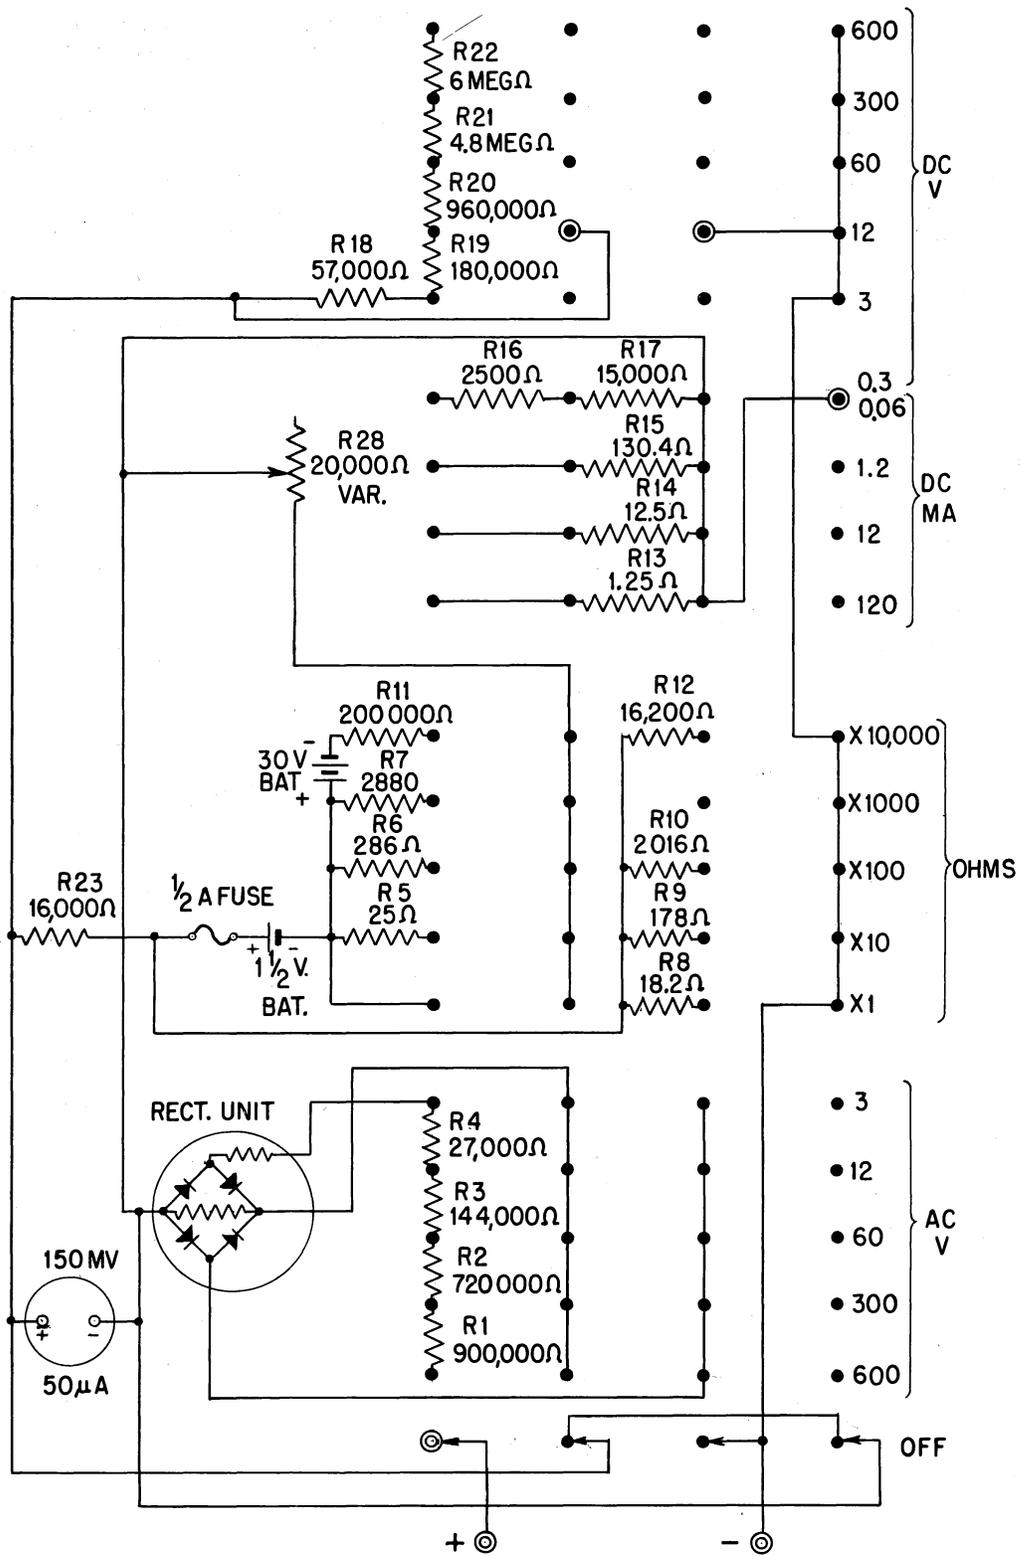

Fig. 3 - Meter Circuit
2.11 A schematic drawing of the meter circuit is shown in Fig. 3.
5.01 The replacement of parts in the field, other than replacement of batteries, is not recommended since the calibration of the meter may be affected by variations in replacement parts. The instrument should be returned through the usual channels for repair and calibration. However, for use in case of an emergency, the values of all resistors are shown on the circuit drawing, Fig. 3. All resistors are "Carbofilm" (Aerovox Corp.) one-half watt type, with a tolerance of  $\pm 1$  per cent. If repairs are made in the field, the location of parts and wiring leads, or the length of wiring leads, should not be changed, as the meter calibration may be affected.